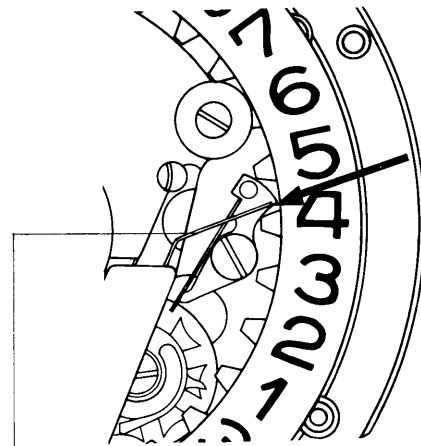

Fig. 5
- 7.1.13. Fit the date-jumper spring in position, checking its tension (see fig. 5).